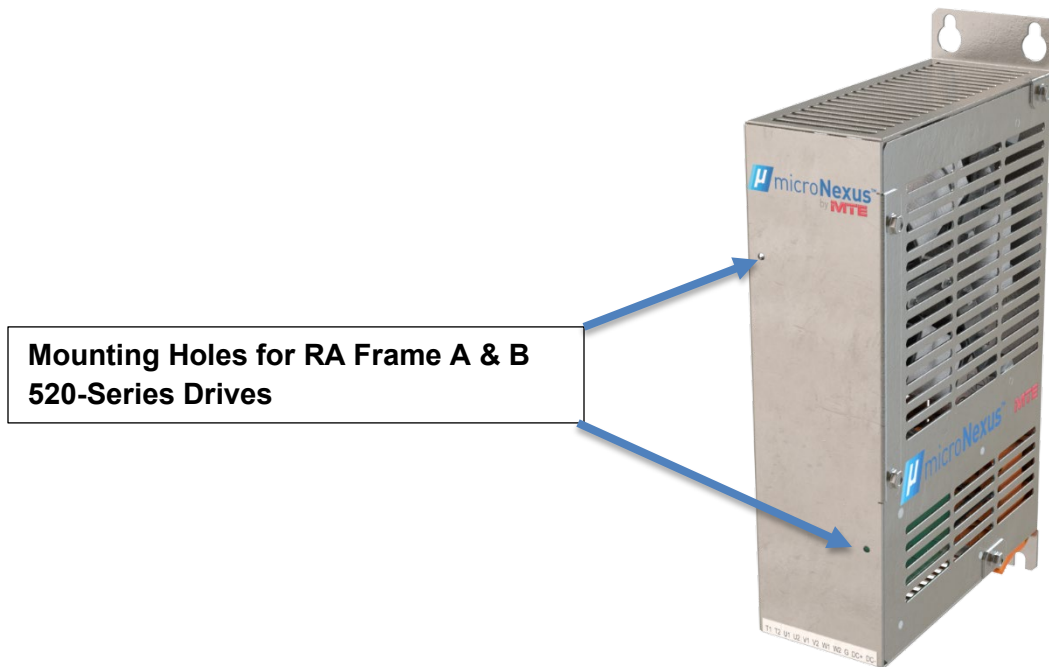
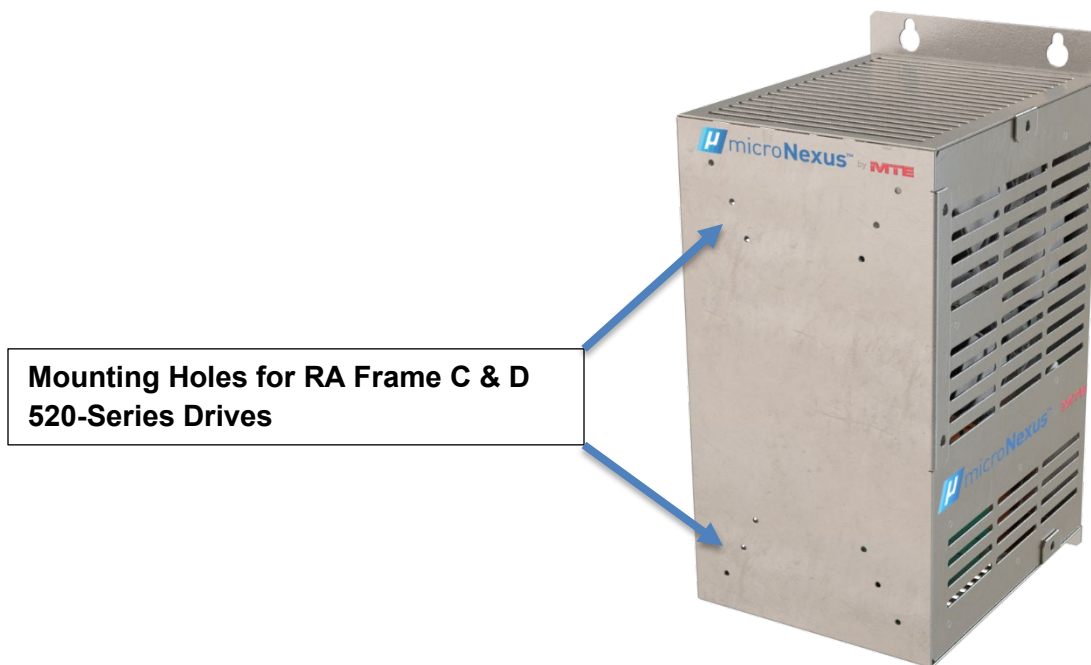

Figure 3-1: Rockwell 520-Series Frame A & B Mounting Capabilities
Figure 3-2: Rockwell 520-Series Frame C & D Mounting Capabilities
- Reference Figure 3-1 and Figure 3-2 (p9) for more information.
- Interconnection between the power source, VFD, MTE filter, and the motor is shown in Figure 3-1: Enclosed Interconnection (p12).